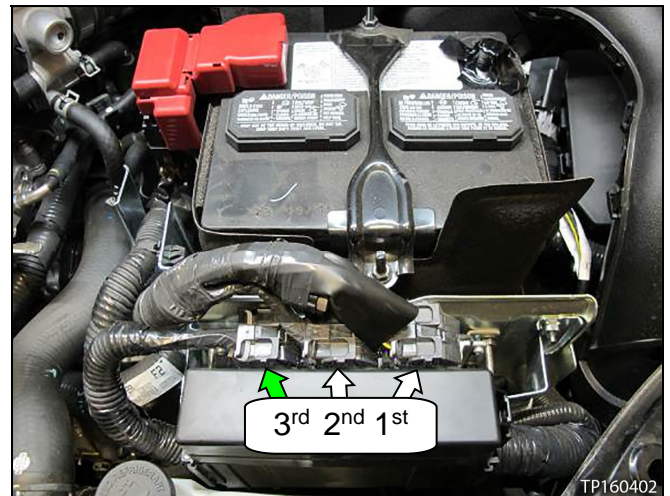
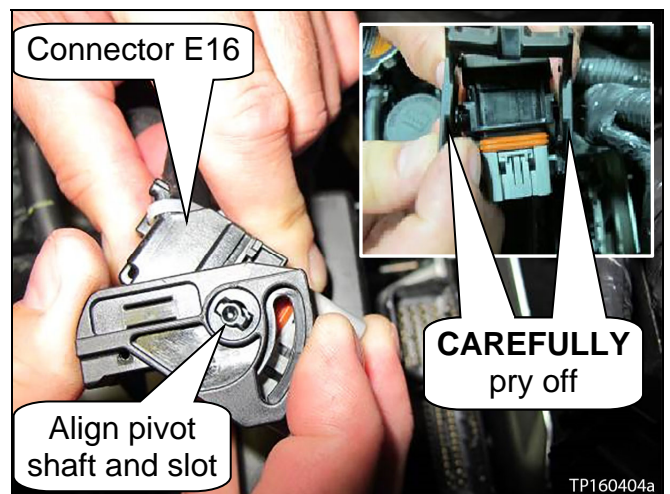

Figure 1
Figure 3
3. Disconnect all three ECM connectors in the order shown in Figure 1.
4. Remove the securing lever from ECM connector E16 (see green arrow in Figure 1, also see Figure 3):
- a. Align the securing lever slot to the pivot shaft (see Figure 3).
- b. While aligned, carefully pull the securing lever off the connector pivot shafts on both sides (see inset, Figure 3).